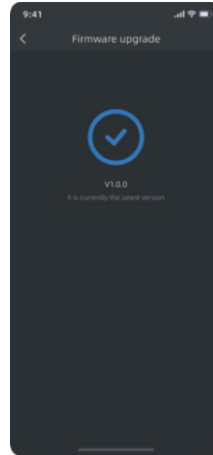

Figure 3
3)Figure 3: It shows that the current version is already the latest.